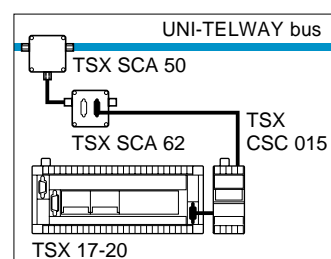

Figure 1
- 2 A 15-way connector for connecting the TSX SCA 62 subscriber socket via a 1.50 m long TSX CSC 015 cable (for connection details see figures 1 and 2 below)
- 2 A 15-way connector for connection to the UNI-TELWAY bus via the TSX SCA 62 subscriber socket (for connection details see figures 1 and 2 below)